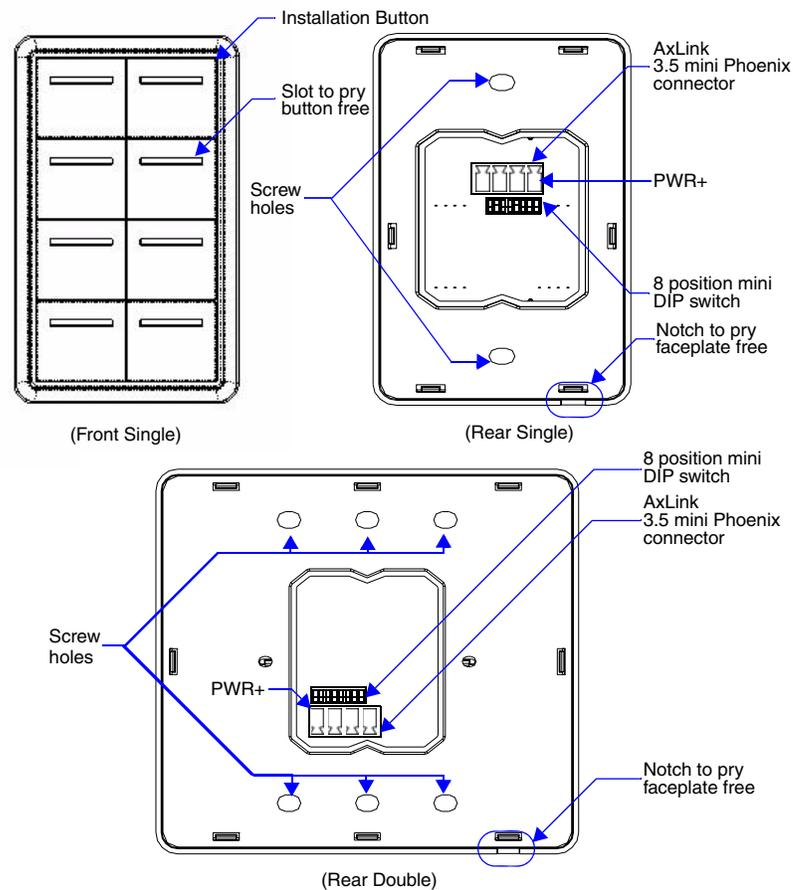

FIG. 2 Mio Modero Front and Rear Components
4. Connect the AxLink power supply. The connector passes through the center of the mounting frame and connects to the board. The connection is illustrated in FIG. 2.